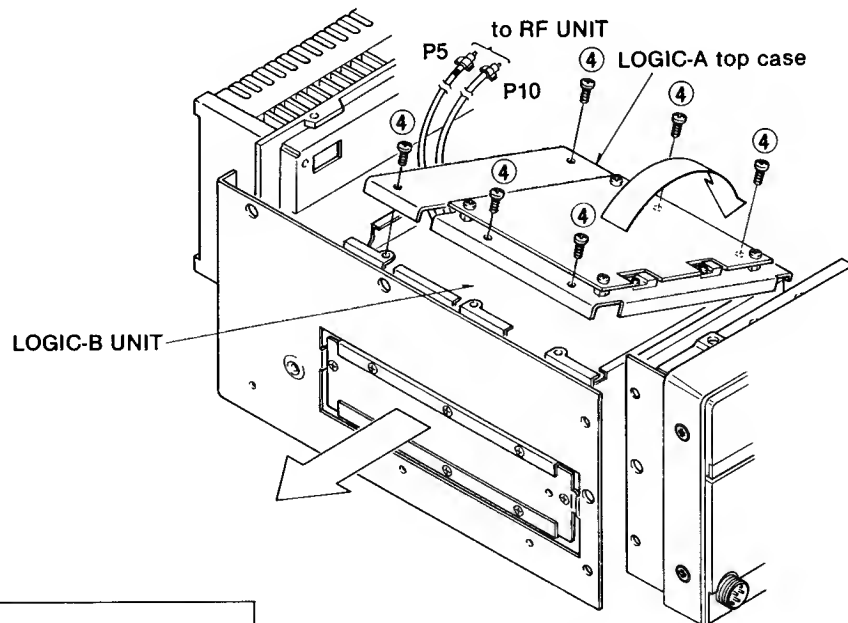

Fig. 2
7. Gently pull out the PLL-A, B UNITS as shown in Fig. 2.